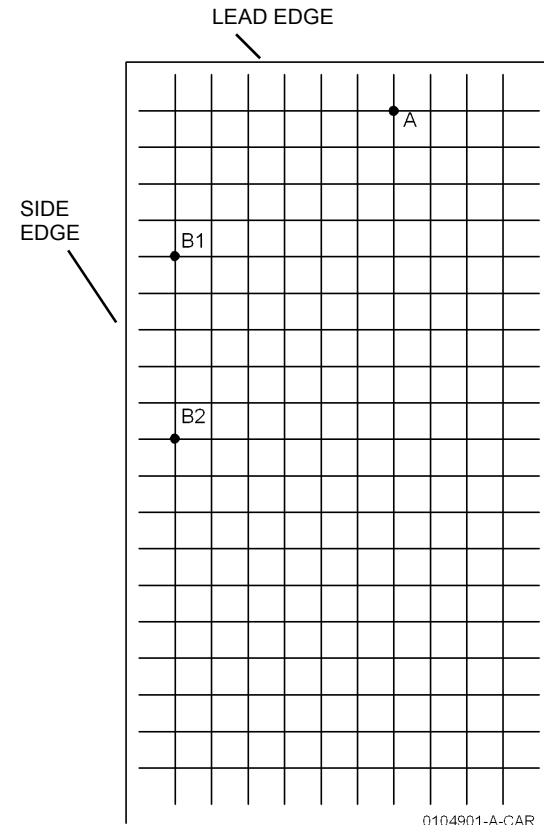

Figure 1 Measurement points
5. Take the third pattern that was printed and measure from the lead edge to point **A** on Figure 1 (the intersection of the 7th line from the left edge and the first line from the lead edge).
For paper larger than letter size: from the intersection between the 1st line from the left top edge and the 10th line from the lead edge of the paper (point B2f on Figure 1).
For paper letter size (A4/8.5 x 11) or smaller: from the intersection between the 1st line from the left top edge and the 5th line from the lead edge of the paper (point B1f on Figure 1).